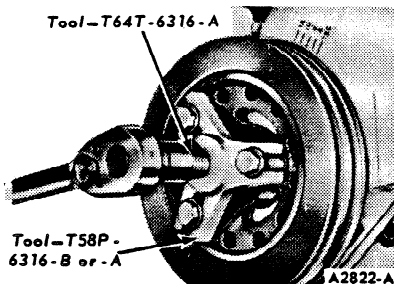

FIG. 36 Removing Crankshaft Damper
4. Remove the cam screw and washer from the end of the crankshaft and remove the damper (Figure 36).
12. Remove the damper (Figure 36).